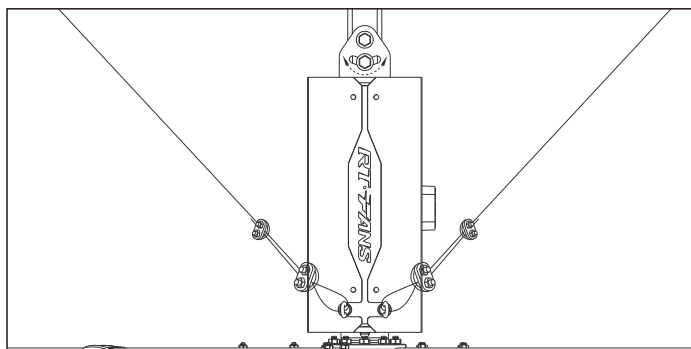

fig4.3.1/图4. 3. 1
4.3.1 The drive device has been assembled to be one unit before delivery, fix it to the extension rod by using bolts, and use the adjustable arc-shaped groove to make sure the drive device at a vertical level position (Fig 4.3.1).
电机在出厂前已经装成一个整体，只需通过螺栓将其整体固定在延长杆上，同时通过调螺丝在弧形槽上的位置，确保电机处于自然垂直水平位置。(如图4.3.1所示)